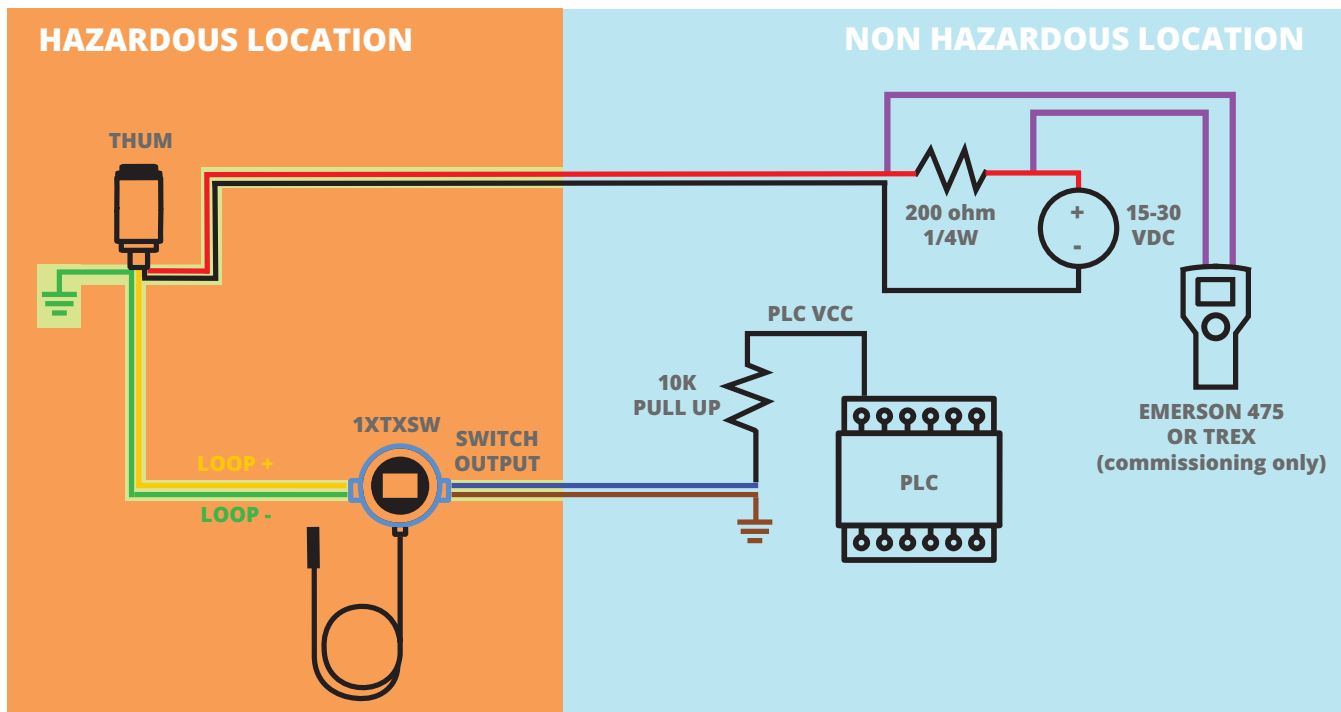

Figure 1: Schematic diagram for circuit tested at UE
The basic circuit tested by UE is shown in Figure 1. The circuit may change depending on the customer's specific need.
- 8 Construct the rest of the circuit outside of the hazardous location as seen in Figure 1. The PLC/control connections may differ for different applications but the power supply should remain the same. Do not attach power without the 200ohm resistor.